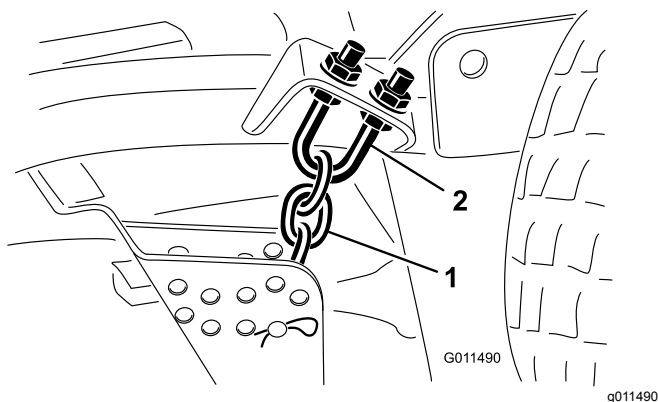

Figure 104
1. Loosen the jam nuts at the top or bottom of the height-of-cut chain U-bolt (Figure 104).